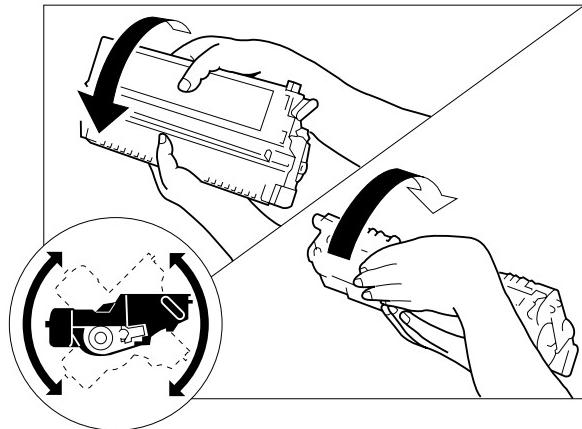

Figure 1-402E
- 1) Remove the cartridge from the copier, and rotate it several times as shown in Figure 1-402E.